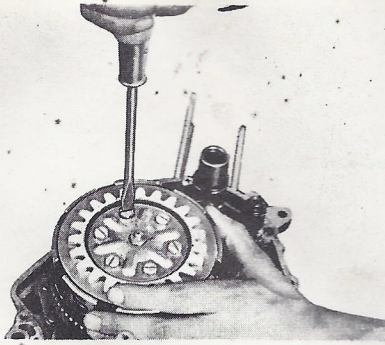

Fig. 3-8-2
Remove the five clutch spring screws, and remove the pressure plate (B). (Figs. 3-8-2 and 3)